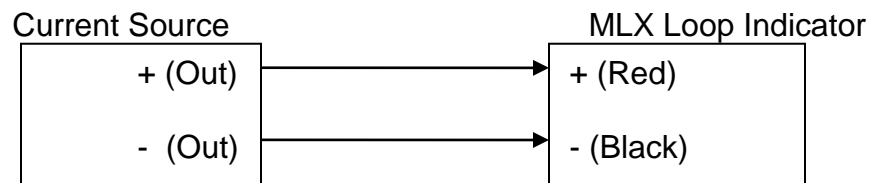

Figure 6.1 Calibrating the MLX
- (2) Connect the instruments as shown in Figure 6.1 (red wire to + OUT on current source, black wire to - OUT on current source) and warm up the instruments for at least five minutes.